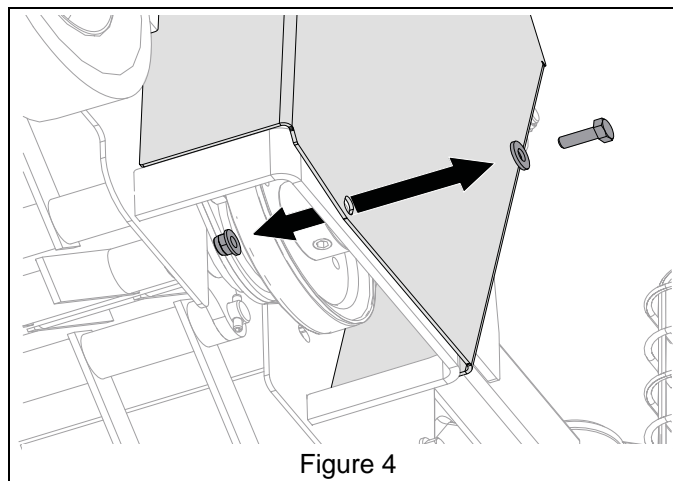

Figure 4
5. Remove and retain one hex bolt, flat washer and nyloc nut from bottom of belt shield and remove shield. See Figure 4.